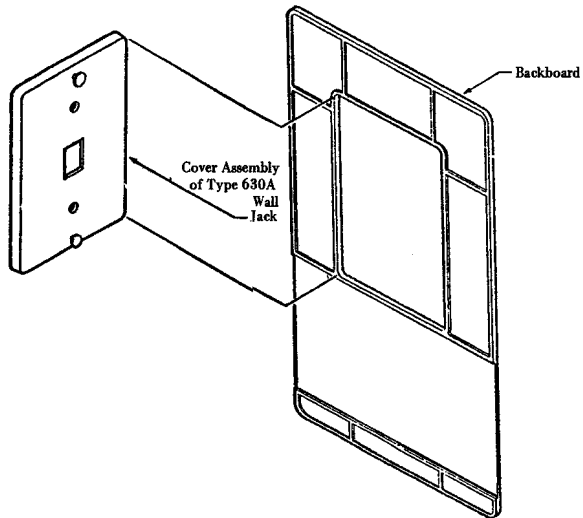

FIGURE 18. Backboard Installation Around a 630A Wall Jack
3.05 191B Backboard: This backboard is used to cover an unpainted or damaged area surrounding the wall telephone jack. The backboard fits around the cover plate of the wall jack and is fastened to the wall using self-adhesive tape. See Figure 18.